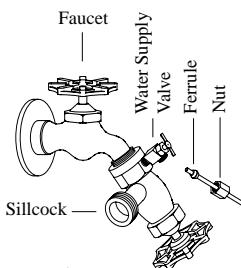

Fig. 3
- Connect water supply line.** Install a sillcock and water valve on faucet as shown by figure 3. Place the nut and ferrule on the tubing and tighten the nut until water tight. **NOTE:** Do not connect the water supply to any soft water applications.